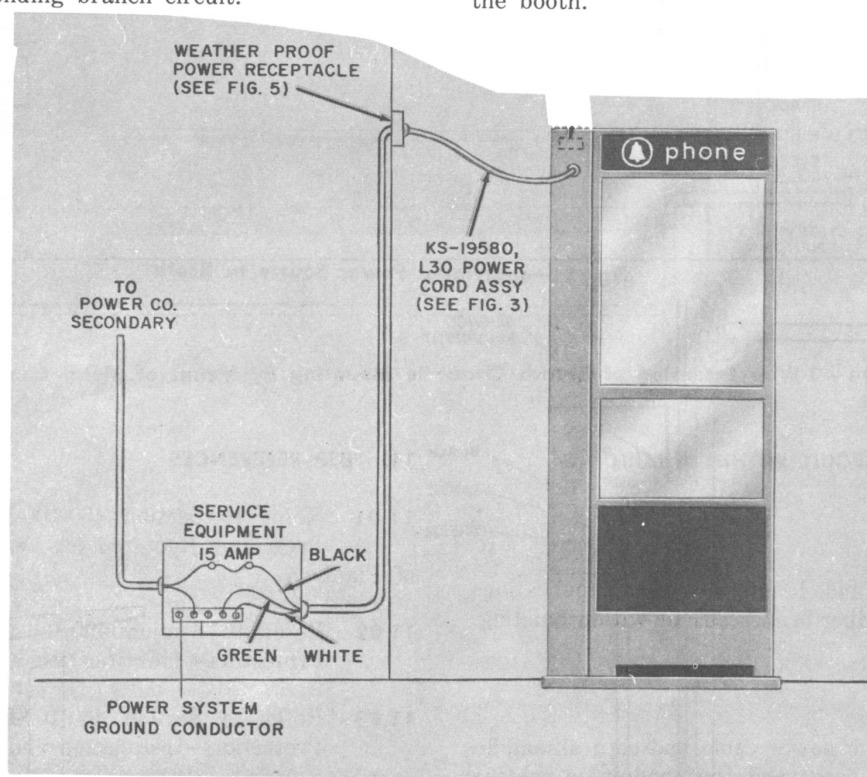

Fig. 13—3-Wire Extension of Branch Circuit to Booth By Means of Power Cord
**9.05** Fig. 13 through 16 show various applications for extending branch circuit.